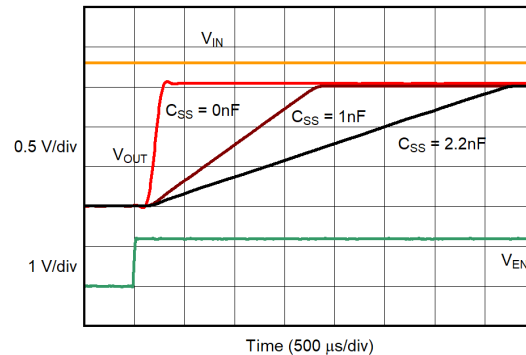

图 7-4. Turn-On Response
3. Select a minimum of a 2.2-μF ceramic output capacitor. Increased output capacitance helps the output load transient response. 图 7-4 gives examples of the load transient response with different output capacitor values and types.